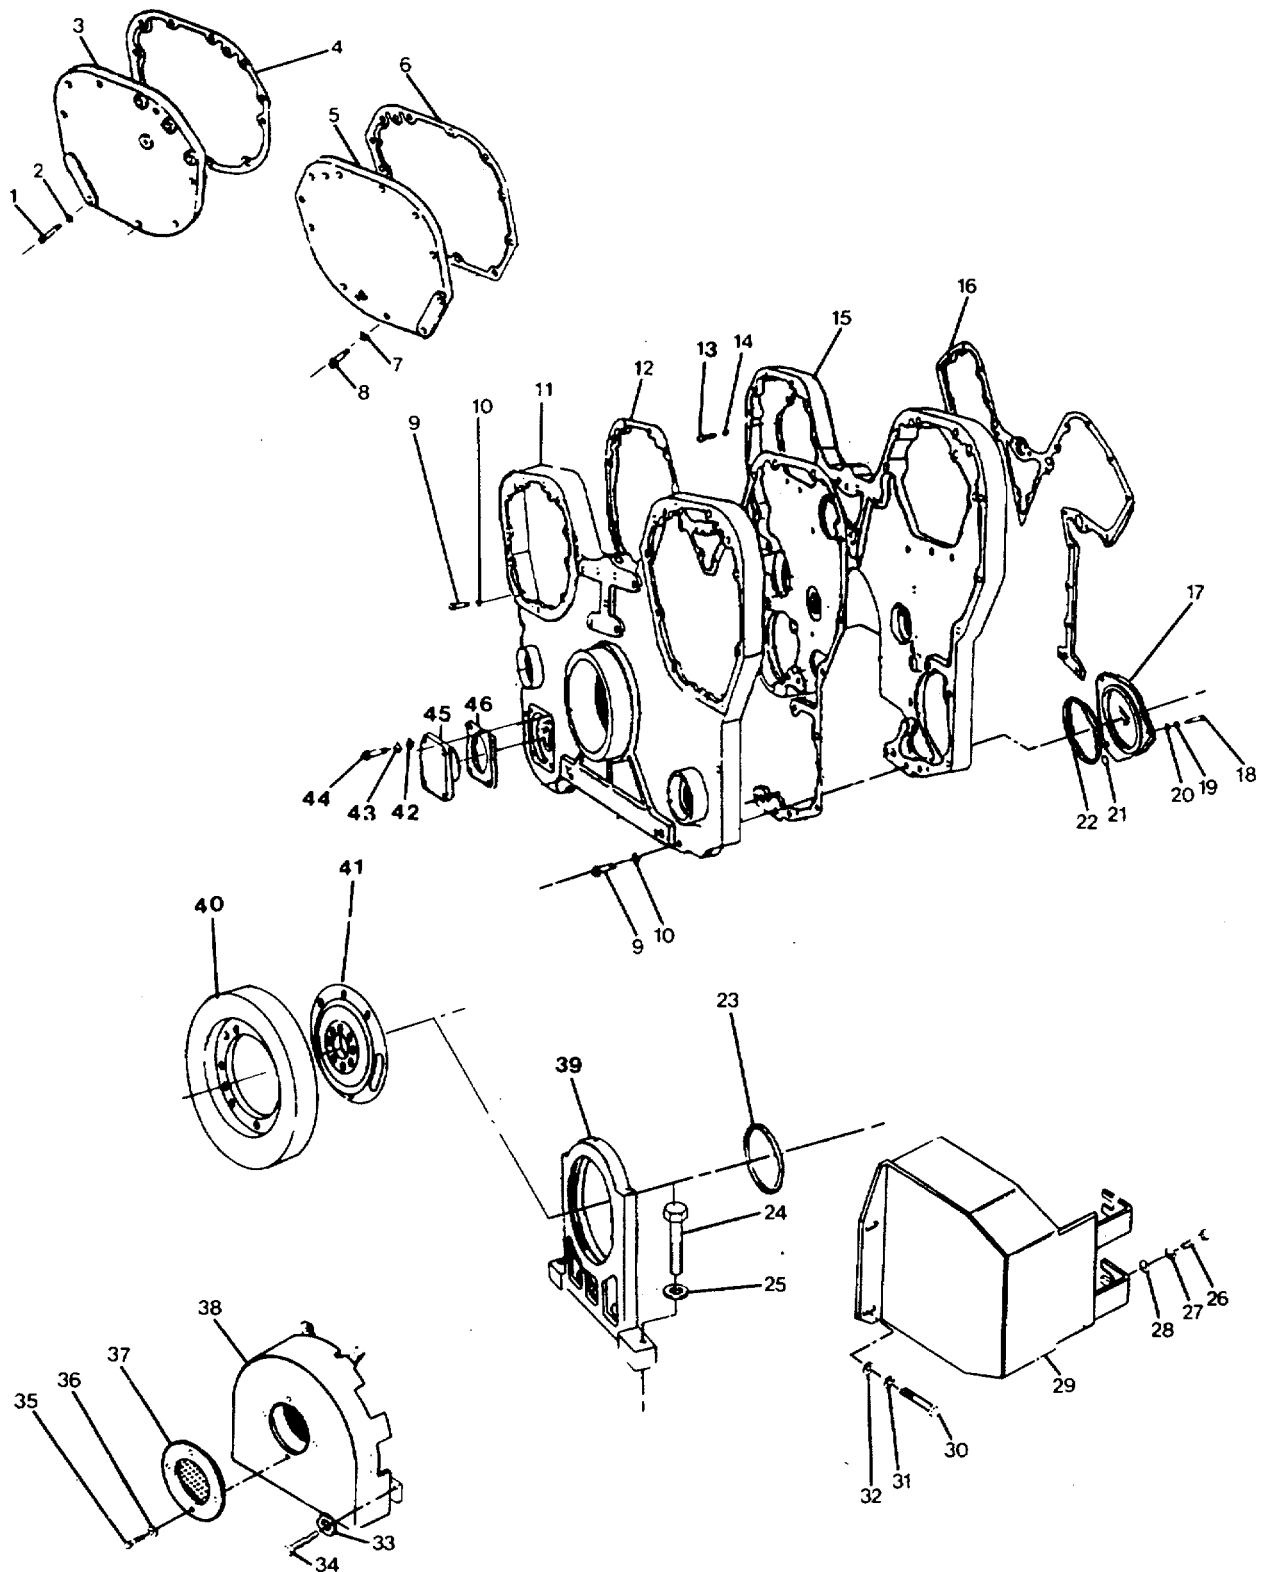

FIGURE 3-13. Pulley Shields and Front Gear Housing Group.
- a. Remove damper screen guard (37, FIG. 3-13).
- (1) Remove four hexagon head capscrews (35) and lockwashers (36).
- (2) Separate damper screen guard (37) from damper guard (38).
- b. Remove damper guard (29).
- a. Replace access plate (17, FIG. 3-13).
- (1) Position small preformed packing (21) in counterbore located around oil bore in backside of front gear housing (15). Use Lubriplate to hold packing in position.
- (2) Install large preformed packing (22) in groove of access cover (17). Lubricate packing with clean engine lube oil.
- (3) Position access cover (17) on front gear housing (15) with bolt holes aligned.
- (4) Install short hexagon head capscrews (18) with lockwashers (19) and flat washers (20) in bolt hole located farthest from engine block.
- (5) Install hexagon head capscrews (18) with lockwashers (19) and washers (20).
- (6) Torque capscrews (18) to 40 ft-lb (54 N•m).
- b. Replace front gear housing (15).
- d. Replace access cover (11, FIG. 3-13).